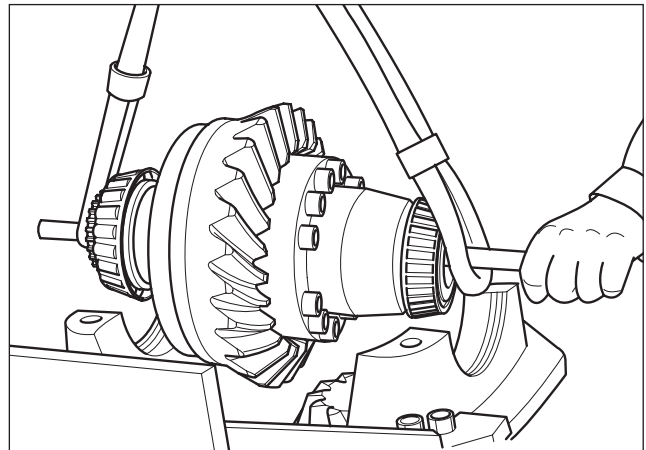

Fig. 2.79
2. Locate ring gear and differential assembly in position in the carrier. (Fig. 2.79)